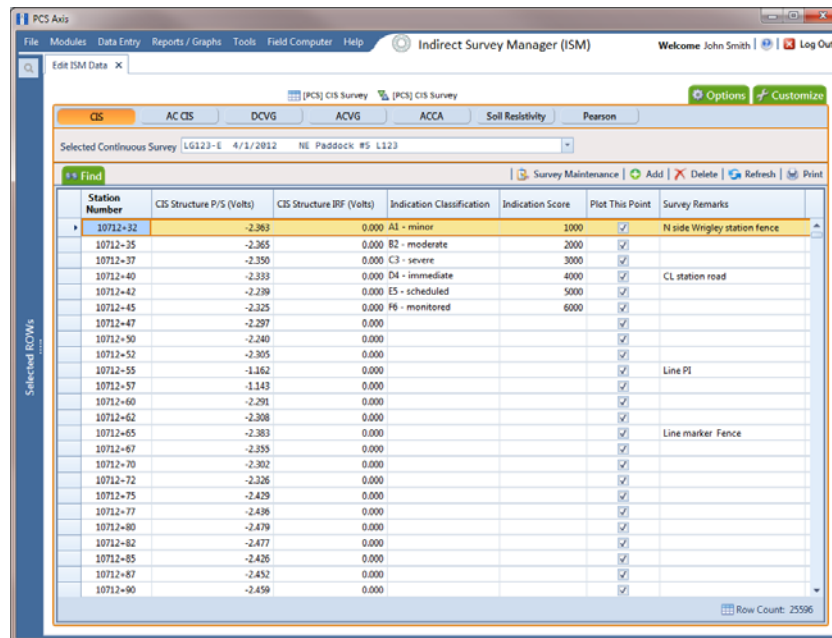

Figure 6-58. Edit ISM Data
- 3 Click **Data Entry > Edit ISM Data** to open the ISM data entry grid. Then click the **CIS** button  to work with a close interval survey (Figure 6-58, page 224).